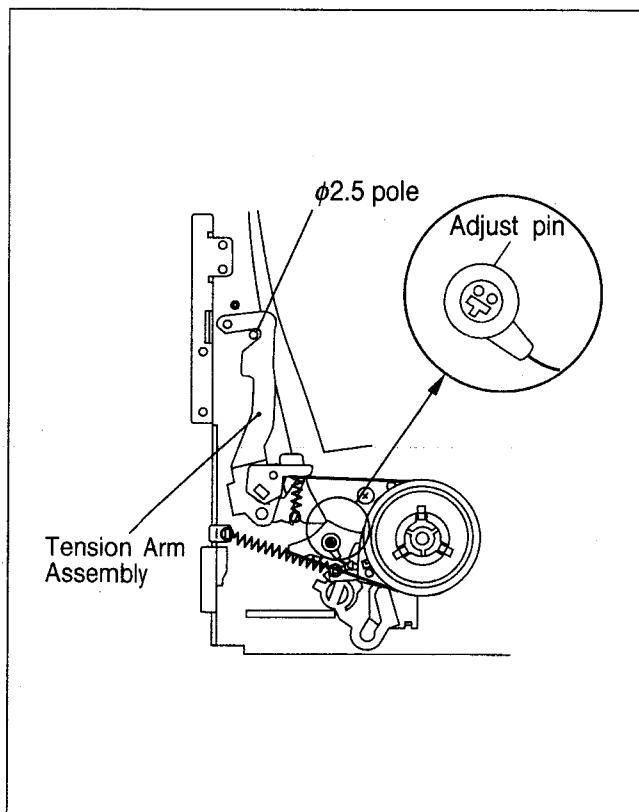

Fig. 2-8-9
- 2) Initiate the play mode and adjust the pin with a flat-blade screwdriver, paying attention not to touch the pole with a diameter of $\phi 2.5$ mm. (Fig. 2-8-9)